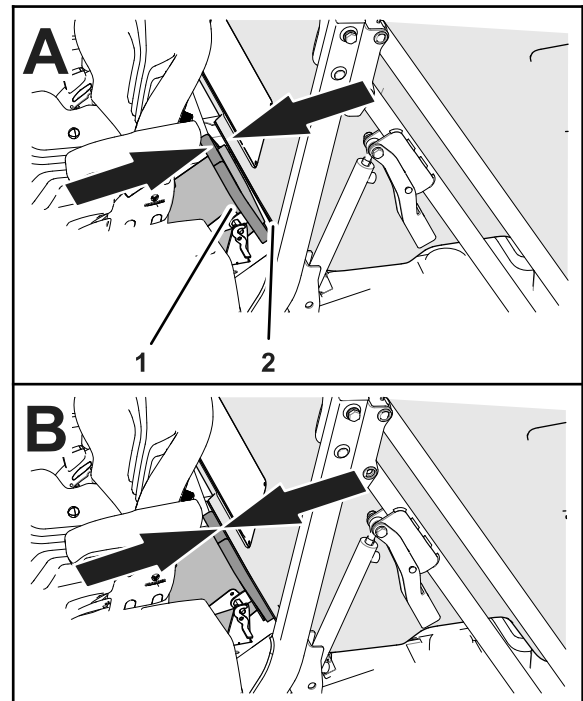

Figure 109
3. Slide the hopper forward or rearward until the hopper inlet aligns with the chute seal (Figure 109).